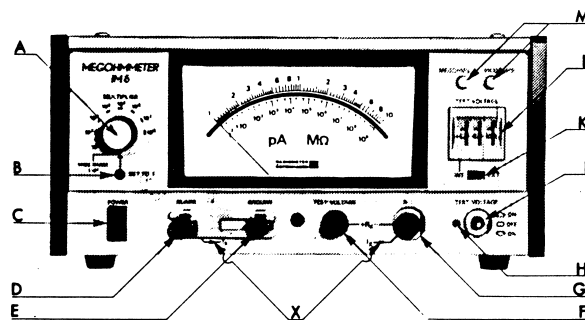
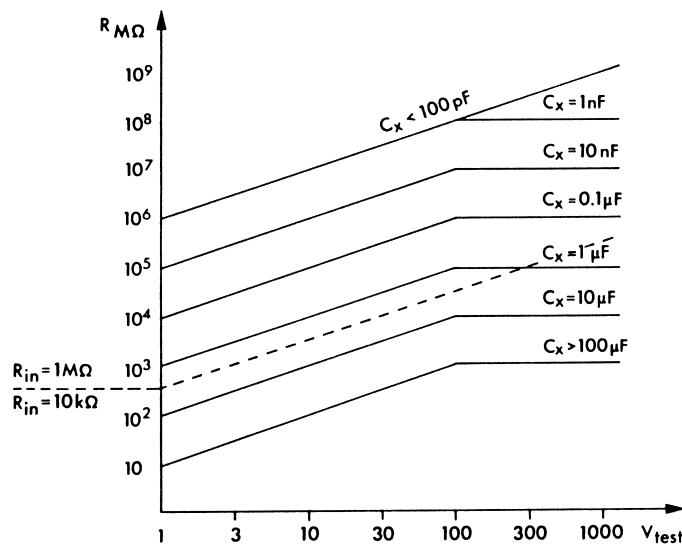

Fig. 2.4 - Front Panel Controls and Terminals
Fig. 2.5 - Range limits when measuring the insulation of capacitors
- a) Depress the power switch C, Fig. 2.4. The built-in lamp should light when the line supply is turned on.
- b) Set the MULTIPLIER to SET TO .1 and, if necessary, adjust the preset potentiometer B, Fig. 2.4, until the meter pointer indicates ".1" on the upper scale.
- a) Depress the MEGOHMS button M, Fig. 2.4.
The measurement of insulation of capacitors is made in the same manner as for resistors. However, reference should be made to fig. 2.5 to ascertain the limits of the insulation value obtainable. An example is drawn in on fig. 2.4, which shows that with a capacitance of 1 uF the limits of measurable insulation will be approx. 10 GOhms with a test voltage of 10 V. Measurements beyond the limits shown in fig. 2.4 can, of course, be made, but meter fluctuations may make the measurements difficult. These limits apply only to the measurement of insulation on capacitors.
- c) Connect the I between the terminals GUARD and R-I (X in fig. 2.4).